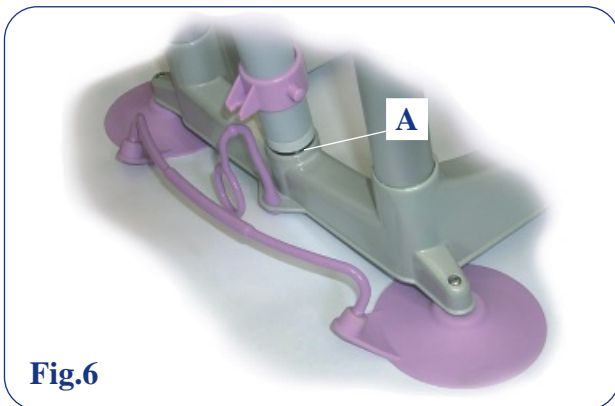

Fig.6
- Remove the actuator and seat section from the base (see "Getting Started" page 3). Moisten each of the suction cups and place the base section as close to the back slope of the bathtub as possible. Reposition the actuator in the socket at the back of the base unit (A fig.6).